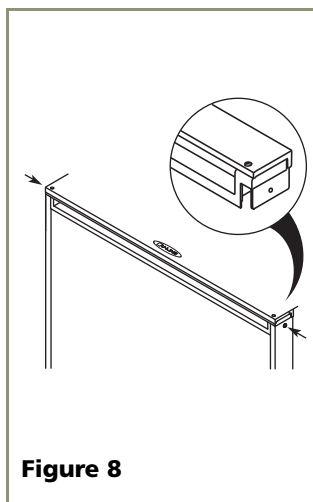

Figure 8
2. Remove and save the two screws located at the ends of the handle (see **Figure 8**). Remove the handle.